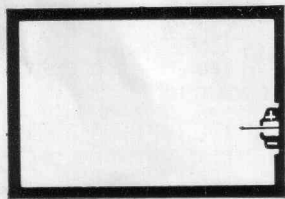
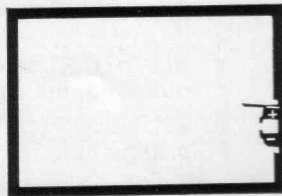

Fig. 15
Fig. 16
(Fig. 15) indicating correct exposure, and then apply additional pressure to the Shutter Release Button to trip the shutter.
**NOTE:** If the needle cannot be perfectly centered (Fig. 15) even after completely rotating the Aperture Ring counterclockwise, a lower shutter speed must be set by rotating the Shutter Speed Dial clockwise.
5. If the indicator needle rises to the plus position (Fig. 16) indicating overexposure, rotate the Aperture Ring clockwise until it is centered between the plus and minus signs (Fig. 15). Then take the picture by increasing pressure on the Shutter Release Button.
**NOTE:** If the indicator needle remains in the plus position (Fig. 16) even after fully rotating the Aperture Ring clockwise, a higher shutter speed must be set by rotating the Shutter Speed Dial counterclockwise.
centering the indicator needle between the plus and minus signs (Fig. 15). Correct exposure can be set either before or after advancing the film.
3. With the Shutter Release Button locked in the depressed position, merely rotate the Shutter Speed Dial until the indicator needle is centered (Fig. 15). After the correct exposure has been determined, the Shutter Release Button may be unlocked by moving the Lock Lever to the left.